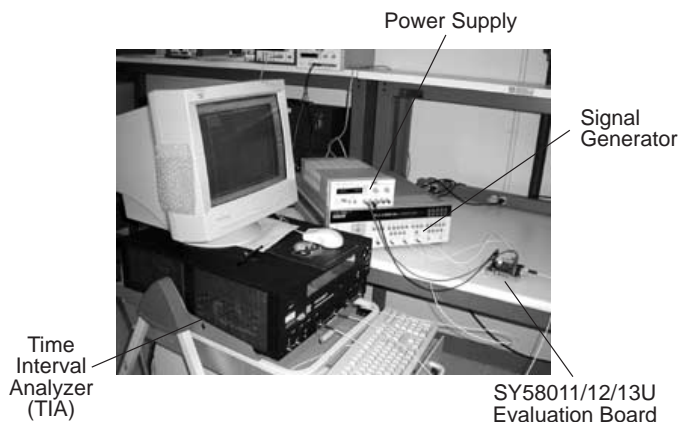
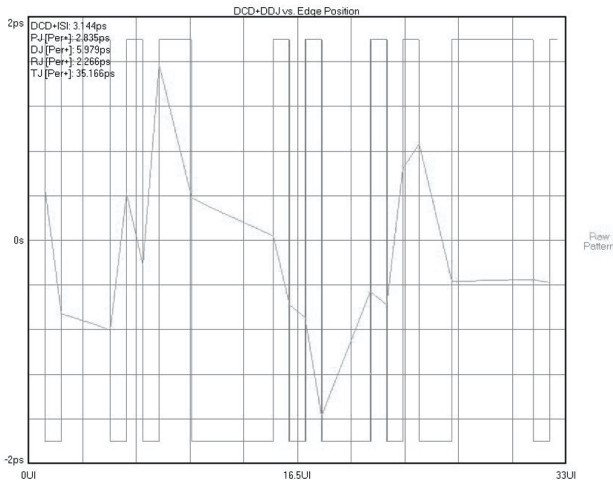

Figure 5. Measuring DJ
Figure 6a. TIA Output of the Source, Just After Calibration
This section describes how to measure DJ using the SY58011/12/13U evaluation board. An example bench setup is shown in Figure 5. Of the various methods to obtain DJ, this document describes how to use the Wavecrest DTS-2079 TIA. Other instruments will require slightly different procedures, though the major steps are common. Following these instructions, you will be able to measure DJ, and obtain results like Figures 6a and 6b.
Using one pair of length matched SMA cables, connect the differential output of the signal generator to "IN", labeled "/IN". In the setup shown in Figure 5, an Agilent 8133A signal source generates a $2^{32}-1$ PRBS pattern.
7. *Use Data Source:* Set the data source to generate a K28.5 pattern, which is the 20-bit sequence "0011 1110 1011 0000 0101," where the spaces are added for readability. The Agilent 8133A used in Figure 5 can only generate a 32-bit pattern. In this case, use "0011 1110 1011 1010 1100 0001 0100 0101," where once again, spaces are added for readability.
Return to page 1. Perform an acquisition, and record the DJ number. This step calibrates the TIA against the signal generator output, and then records the “clean” DJ value from this signal generator and TIA combination. You will get something like Figure 6a.